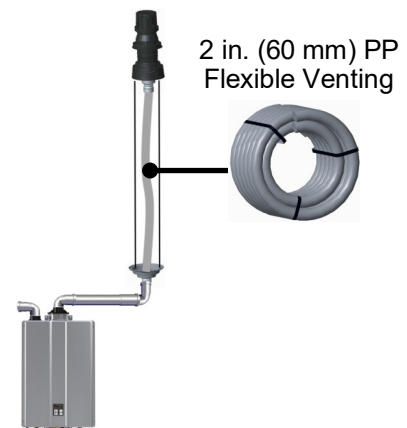

Fig 4. Ubbink Rolux® Flexible Venting
Description:	The following Ubbink Rolux® flexible venting is approved for vertical, non-direct vent (room air) applications: 2 in. (60 mm) Polypropylene (PP) (Fig 4).